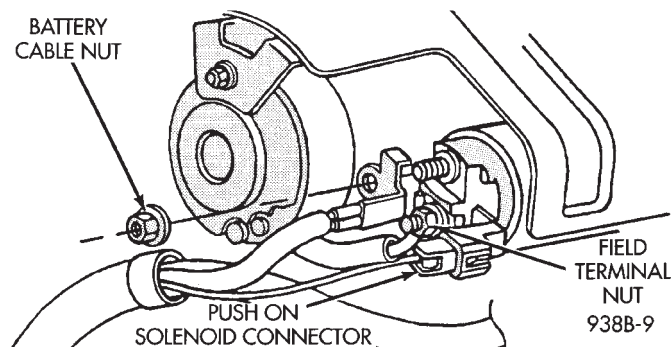
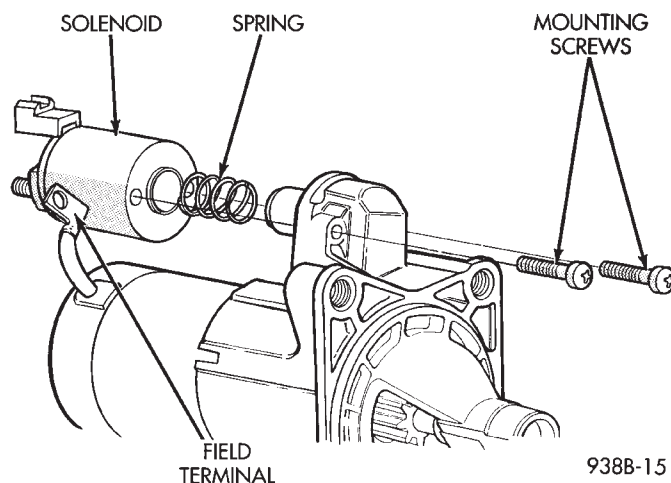

Fig. 3 Wire Terminal Connection
Fig. 4 Solenoid Mounting Screws
(5) Remove starter/starter solenoid assembly from engine. Position the starter to gain access to the wiring connectors.
(6) Remove the positive battery cable nut and wiring terminal nut (Fig. 3).
- (1) Disconnect field terminal (Fig. 3).
- (2) Remove wire terminal and battery cable nuts.
- (3) Remove two solenoid mounting screws (Fig. 4).